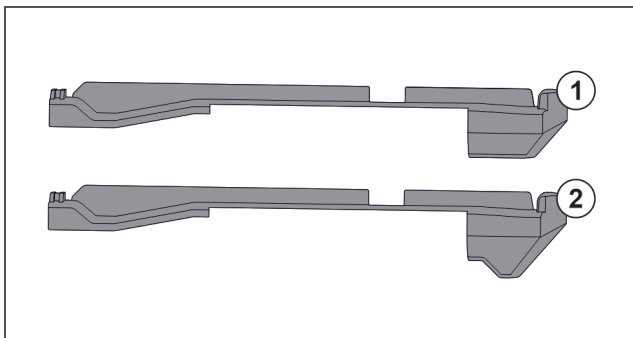

Fig. 53 Comparing attachments
There are two different attachments in the appliance. The attachment above the lowest drawer *Fig. 53 (2)* has a three-cornered edge. All other attachments *Fig. 53 (1)* have a straight edge.
- ▶ Fit attachment *Fig. 53 (2)* with the three-cornered edge above the lowest drawer.
- ▶ Fit attachment *Fig. 53 (1)* with straight edge in all other positions.